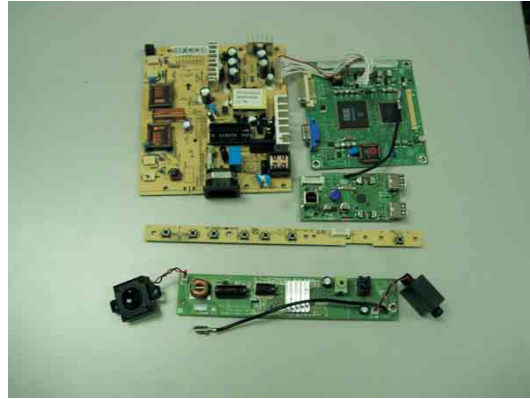

Fig.17
- Remove the scaler and power board as shown in Fig.16 Fig.17